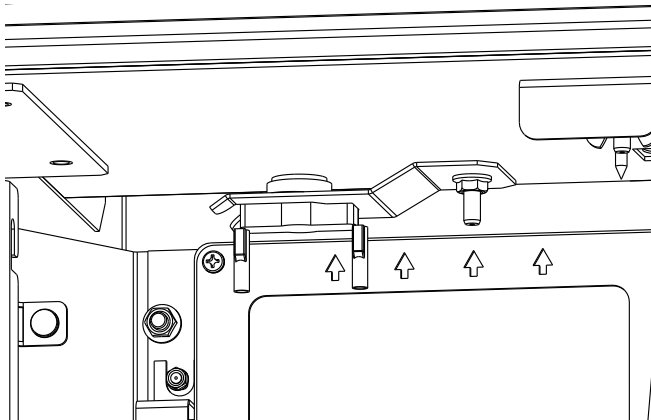

Figure 10.14. Install Snapstat and attach pink connectors.
13. Install the Snapstat into the bracket ensuring that it sits flush on the firebox. If snapstat is not snug against the firebox, the bracket may need to be bent by hand to make a secure fit. See fig 10.14.